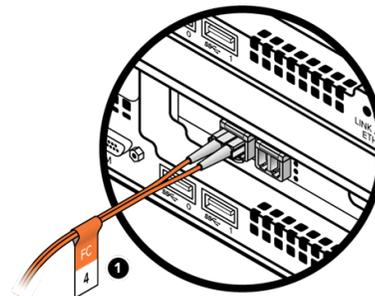

Figure 11-3. Attaching a Temporary Label to Host and Replication Cables
1. Attach a temporary label with the name of the port from which the cable is disconnected (e.g., **FC4**). See Figure 11-3.